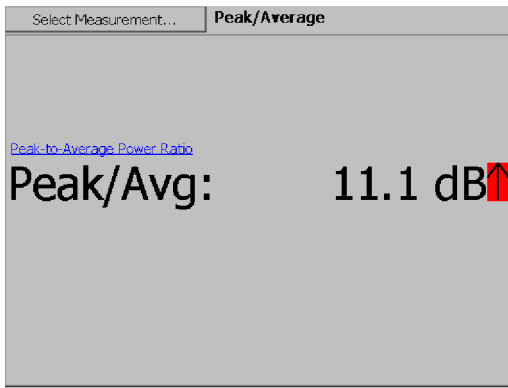

Figure 3-44: A typical Peak to Average Power Ratio display
3. Tap **Peak/Average**. See Figure 3-44.